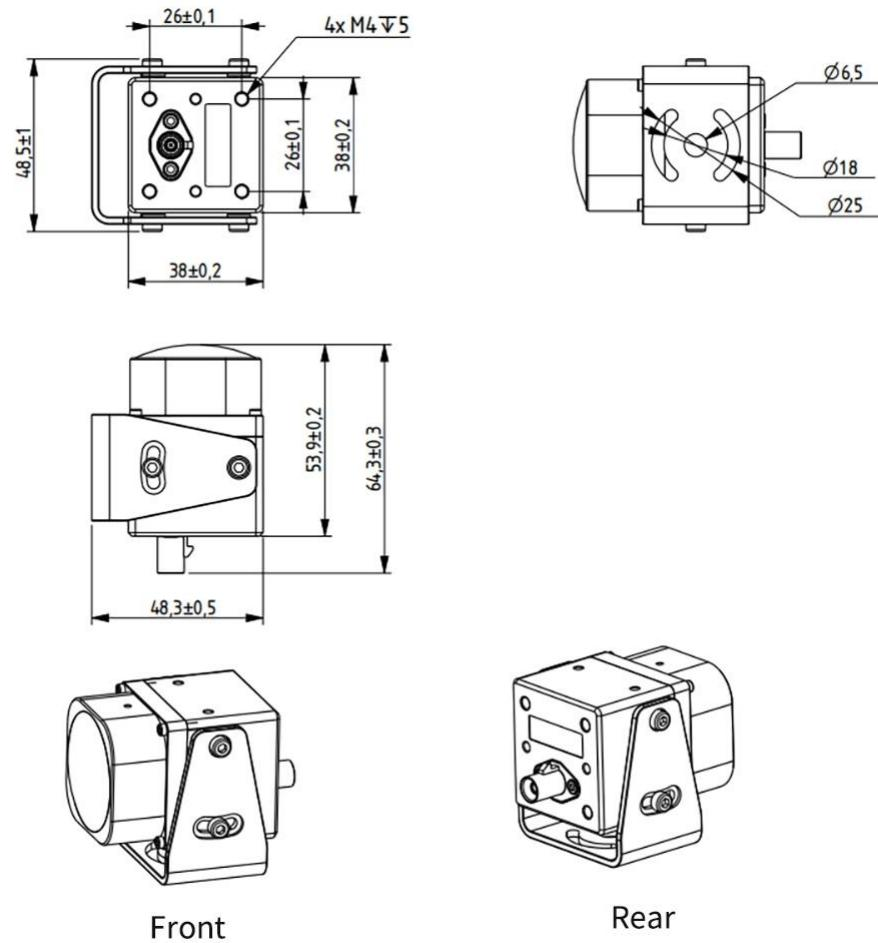

Figure 1-3 External Dimensions of Pilot640RFXXG
(3) The Pilot640RFXXG series product consists of a front shell, a rear shell, and a FAKRA connector, as shown in Figure 1-3.